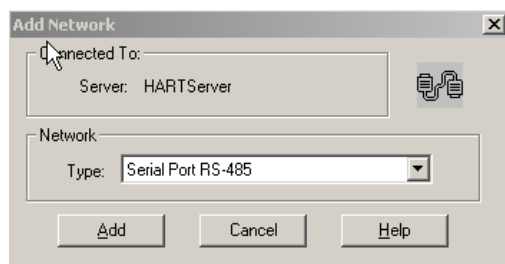

Figure 68. Add Network
3. Select **Add Network**. A screen, similar to the one shown in Figure 68 is displayed.